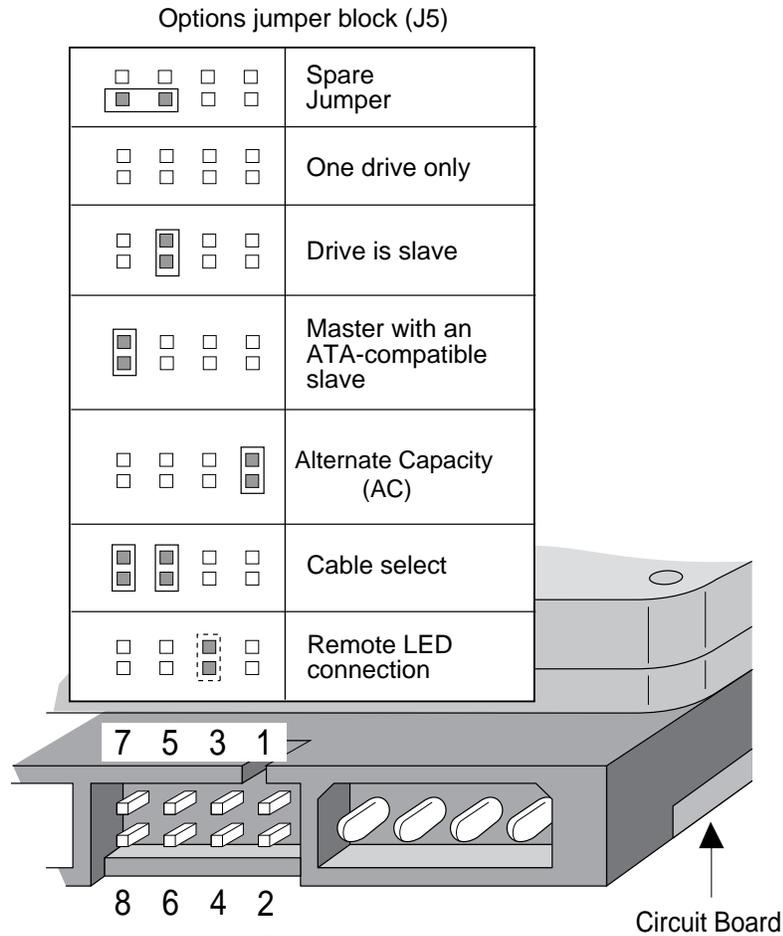

Figure 4. Configuration Settings
The jumper settings for these options are shown in Figure 4 on page 20. The drive is shipped with a spare jumper attached to pins 6 and 8. Use this jumper to configure the drive.
- Install jumpers on pins 5 and 6 and pins 7 and 8 as shown in Figure 4 on page 20.